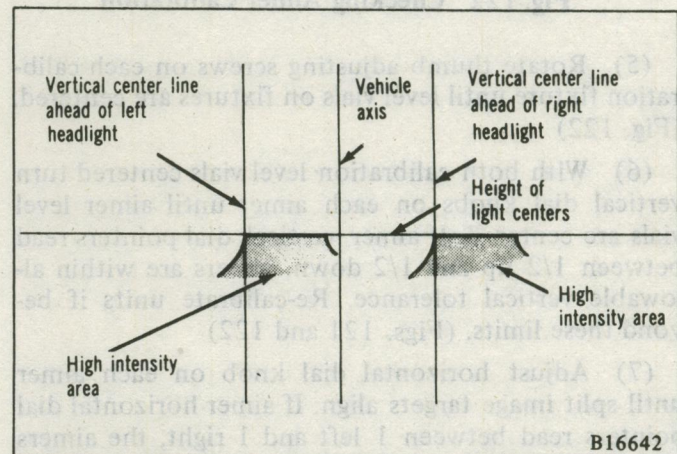

Fig. 126 Low Beam Adjust Pattern
(1) A properly aimed lower beam of 142 x 200 mm (5.6 x 7.9 in. Type 2B marked "2B" on lens) rectangular sealed beam will appear on the aiming screen 7.6 m (25 feet) in front of the vehicle. The shaded area as shown in Fig. 126 indicates high intensity zone.
(2) Adjust low beam of headlights to match the low beam patterns of the left and right headlights.